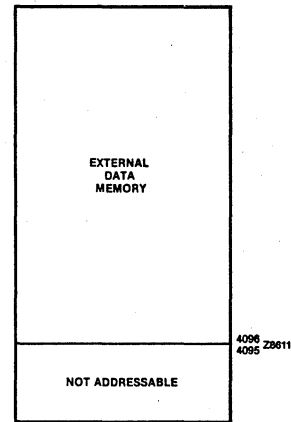

Figure 5. Data Memory Map
**Data Memory.** The Z8 can address 60K (Z8611) bytes of external data memory beginning at location 4096 (Z8611) (Figure 5). External data memory may be included with or separated